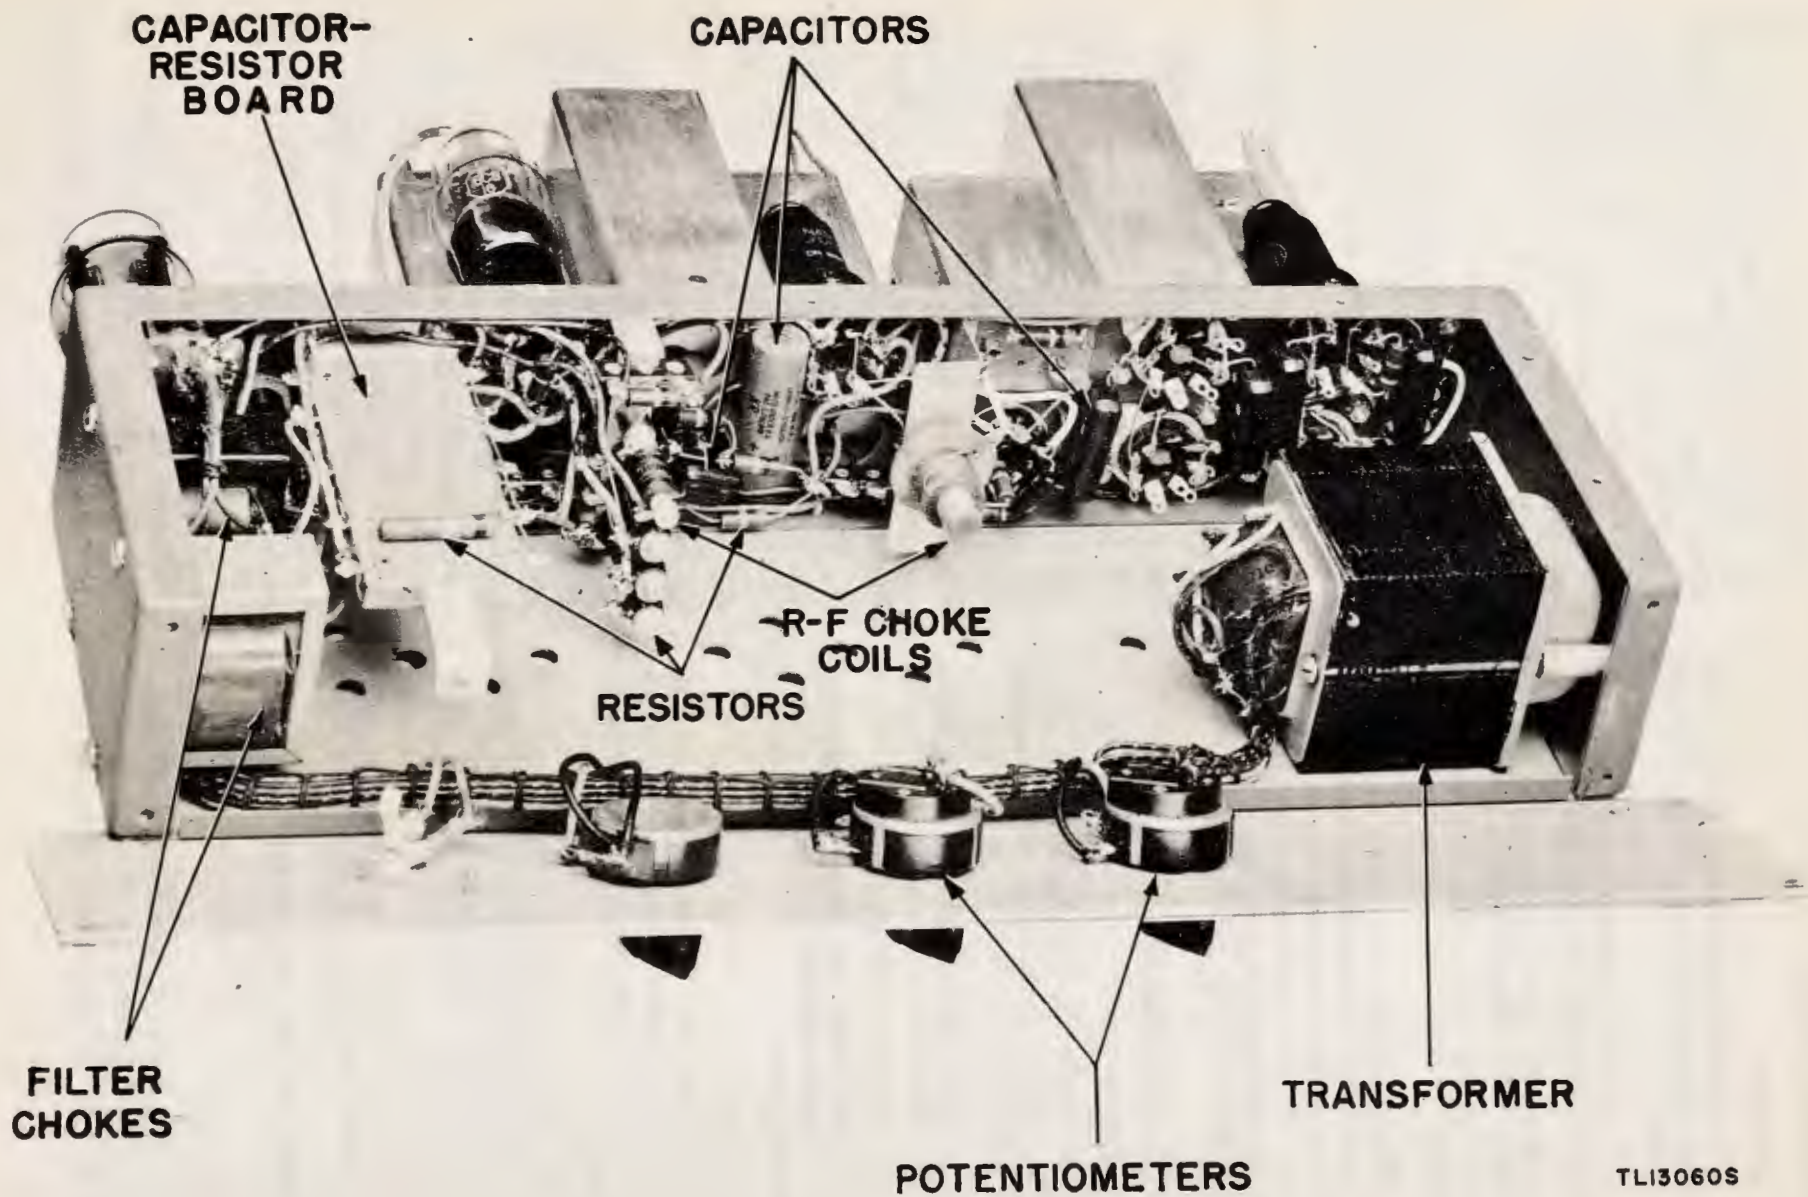

Figure 10. Radio receiver type CW3, interior view.
(2) Remove dust or dirt from the glass envelopes with a clean, lint-free, dry cloth. If tube caps are corroded and if proper care is exercised, the tube caps may be cleaned with a piece of #0000 sandpaper. Wrap the paper around the cap and *gently* run along the surface. Wipe with a clean dry cloth.
24. CAPACITORS (fig. 10).
a. Inspect (I).
b. Clean (C).
(1) Clean the case of fixed capacitors and connections that are dirty or corroded.
(2) Clean the plates of variable capacitors with a small brush or blower, removing all dust and lint.
25. RESISTORS (fig. 10).
a. Inspect (I). Inspect the coating of the vitreous-enameled resistors for signs of cracks and chipping, especially at the ends. Examine the bodies of all resistors for blistering, discoloration, and other signs of overheating. Inspect leads and all connections for corrosion, dirt, dust, looseness, and broken strands in connecting wires. Check the security of all mountings. Do not attempt to move resistors with pig tail connections, because there is danger of breaking the connections at the point where they enter the body of the resistor. Such defects cannot be repaired.
a. Inspect (I). Inspect the fuse caps for evidence of burning, charring, and corrosion; the fuse clips for dirt, loose connections, and proper tension.
b. Tighten (T). The tension of the fuse clips may be increased by pressing the sides closer together.
c. Clean (C) Clean fuse ends and fuse clips with crocus cloth; then wipe them with a clean cloth.
27. RHEOSTATS AND POTENTIOMETERS (fig. 10).
a. Inspect (I). Inspect the mechanical condition of the rheostats and potentiometers. The arm should be keyed tightly to the shaft, and the shaft should turn easily in the bushing which supports it. Examine the insulating body of the rheostat for dust, dirt, cracks, and chipped places.
b. Tighten (T). Tighten loose assembly or mounting screws.
c. Clean (C).
(1) Clean each chassis, outside and in, with a clean dry cloth. Use dry, compressed air at low pressure to blow out all accumulated dirt and dust.
(2) If air filters cannot be cleaned with compressed air, replace them with clean filters.
(3) Repaint any surface that is found scratched, rusted, or chipped.
c. Tighten (T). Tighten all mounting bolts, panel screws, and control knobs found loose.
32. TRANSFORMERS AND FILTER CHOKES (fig. 10).